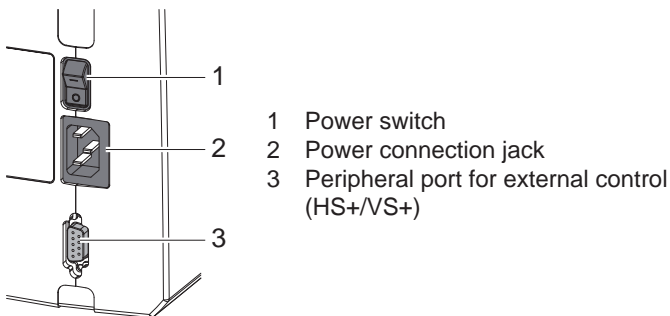

Fig. 3 Connections
2. Connect the external control to the 9 pin SUB-D connector of the peripheral port (3 / Fig. 3):
- ▶ Switch the device on at the power switch (1 / Fig. 3).